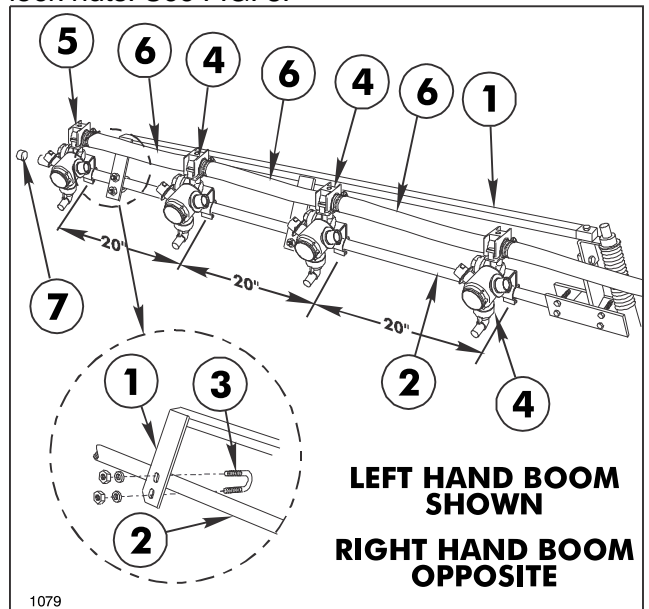

FIG. 8
11. Attach the Boom Support Assembly to the Pivot Assembly, using a 5/16" x 1-1/2" screw and hex nut. Secure the two plates of the Boom Support Assembly to the Extension Boom Pipe, using two 1/4" U-bolts, four flat washers, and four lock nuts. See FIG. 8.
14. Attach three Double Barb and one Single Barb Nozzle Assemblies on each Extension Boom Pipe. Nozzles are to be spaced on 20 inch centers. Connect the Nozzle Assemblies with the 3/4" x 19" Jumper Hoses. Secure with hose clamps (FIG. 8).